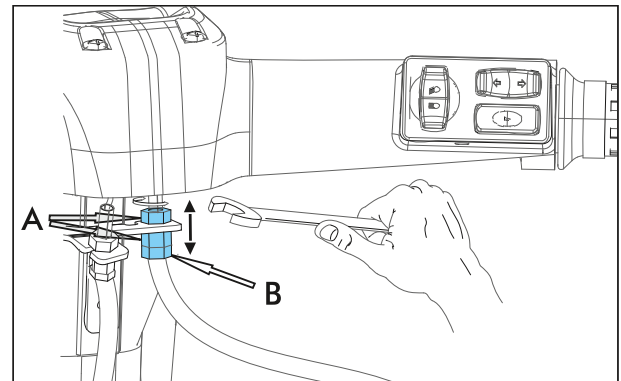

Fig. 2.86
- Adjust the free play by holding the adjuster bolt (B), loosening the lock nut (A) on throttle cable. (Fig. 2.86)
- Hold the adjuster bolt (B) and tighten the lock nut (A).(Fig. 2.86)